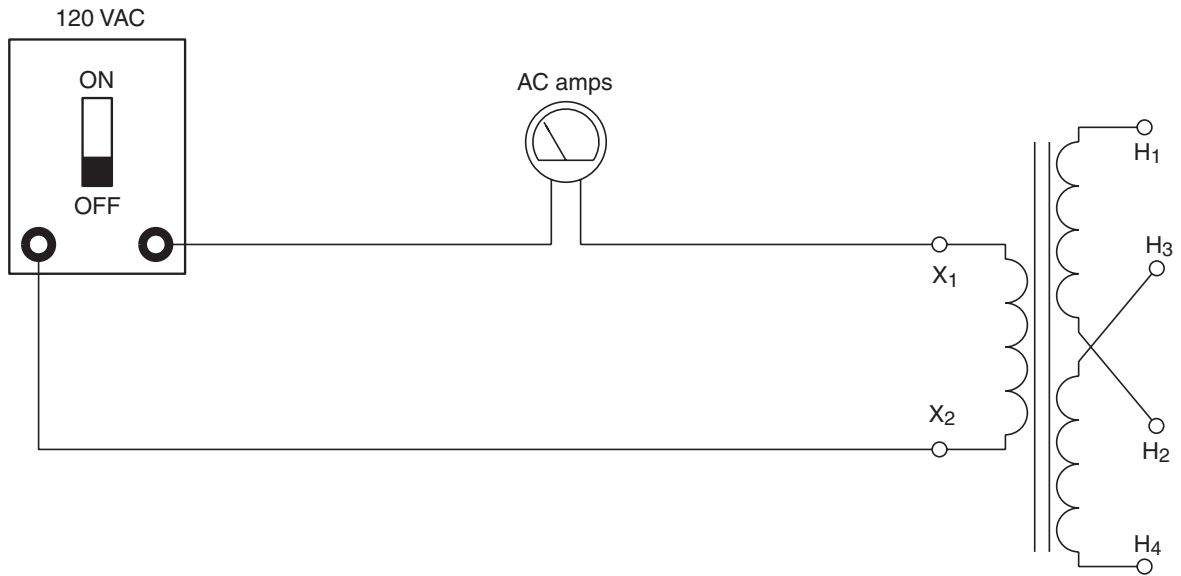

Figure 10-1 The secondary of a control transformer is used as an inductive load.
2. Connect the circuit shown in Figure 10-1.